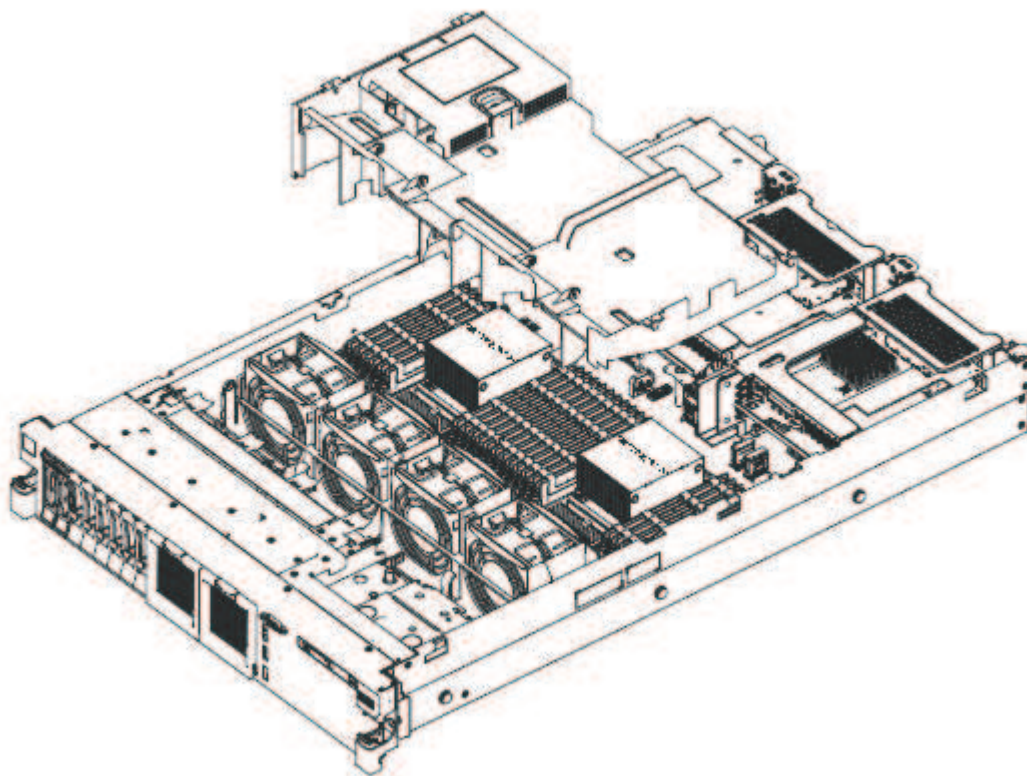

Figure 62. Replacing the air baffle
3. Lower the air baffle into place, as shown in Figure 62 on page 80, making sure that all cables are out of the way. Press the air baffle down until it is securely seated.